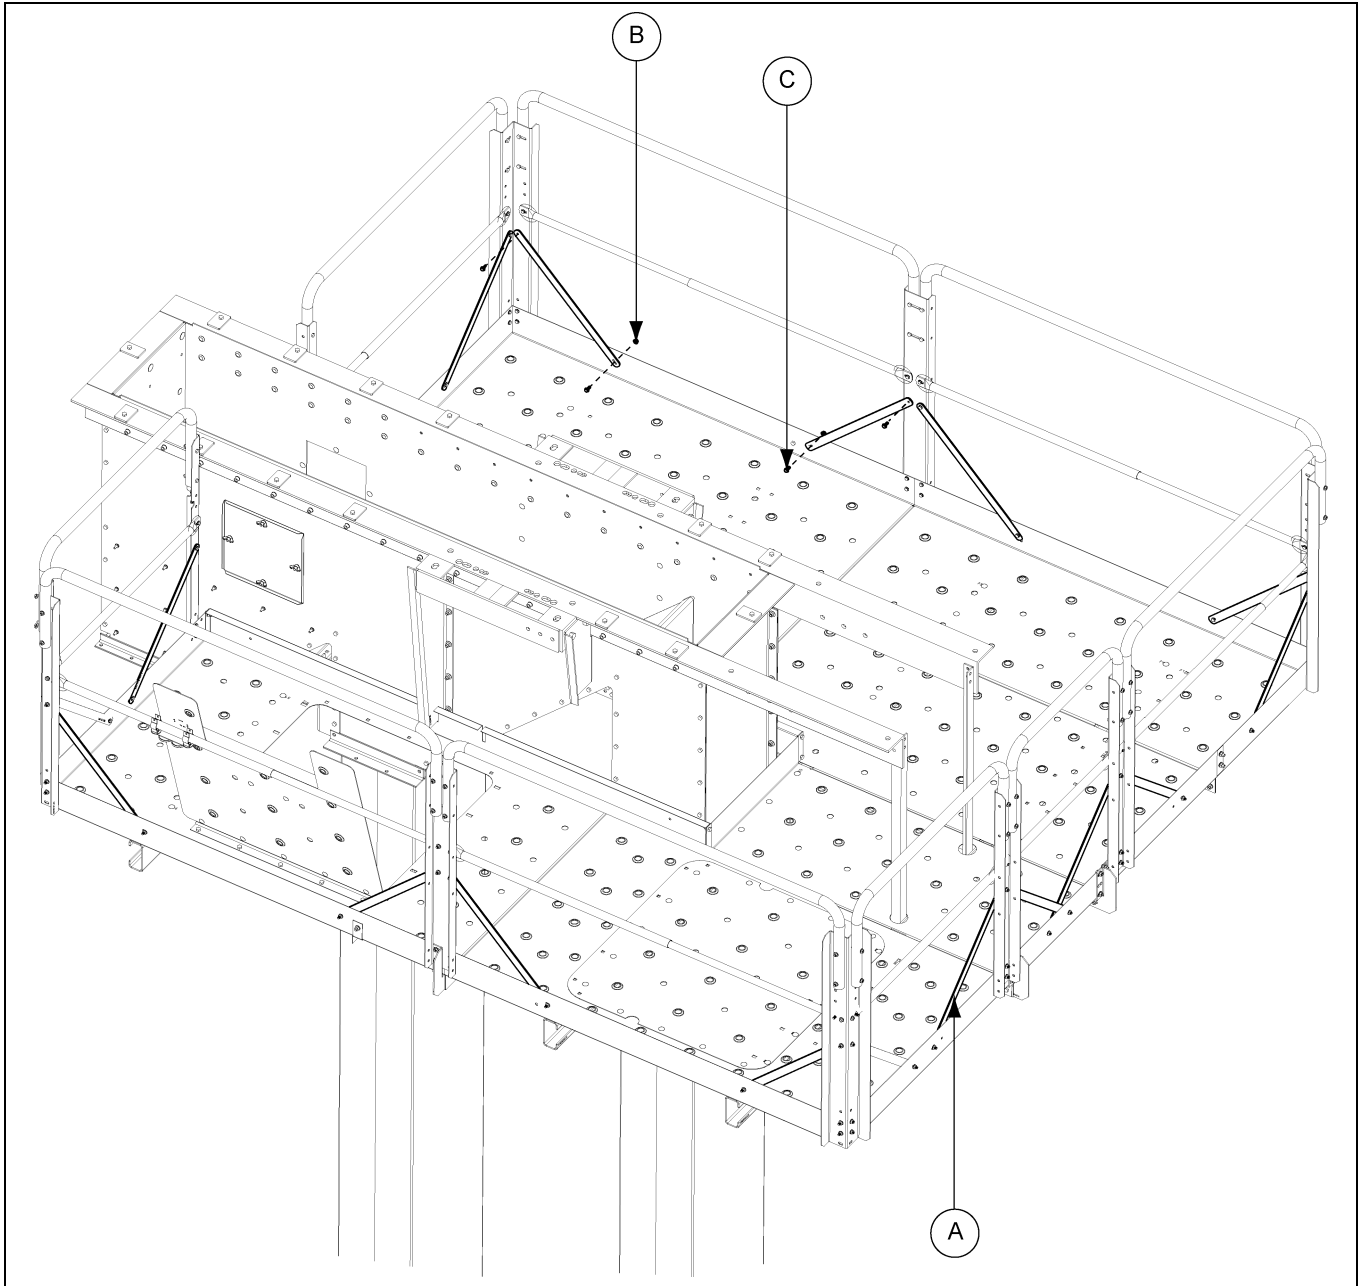

Figure 10N
1. Attach safety cage bar - 24" (LDR-5171BE) (A) from handrail post to decking kick plates using 5/16" x 3/4" bolts (S-6606) (B) and nuts (S-3611) (C). (See Figure 10N.)